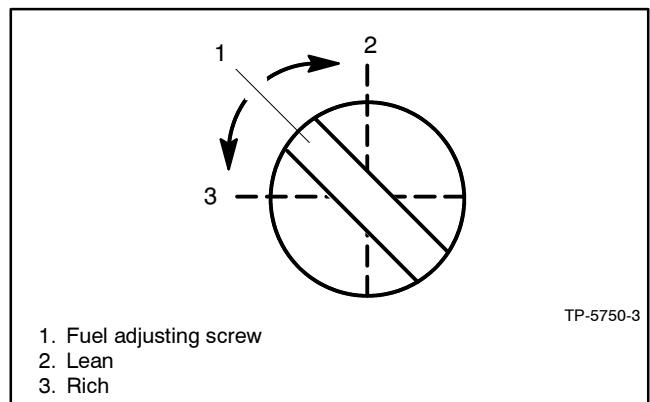

Figure 8 Fuel Mixture Adjustment, Typical
- 6.2 Adjust the engine fuel mixture screw (Figure 8) until the engine runs smoothly.